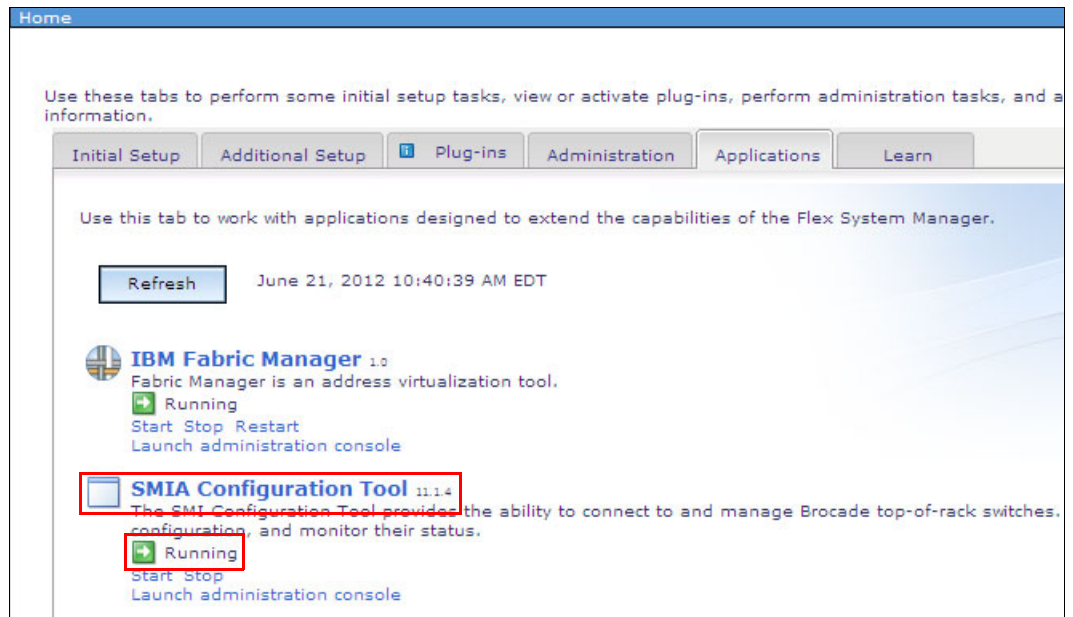

Figure 6-159 Check SMIA status
4. Check that SMIA is running as shown in Figure 6-159. Click **SMIA Configuration Tool**.